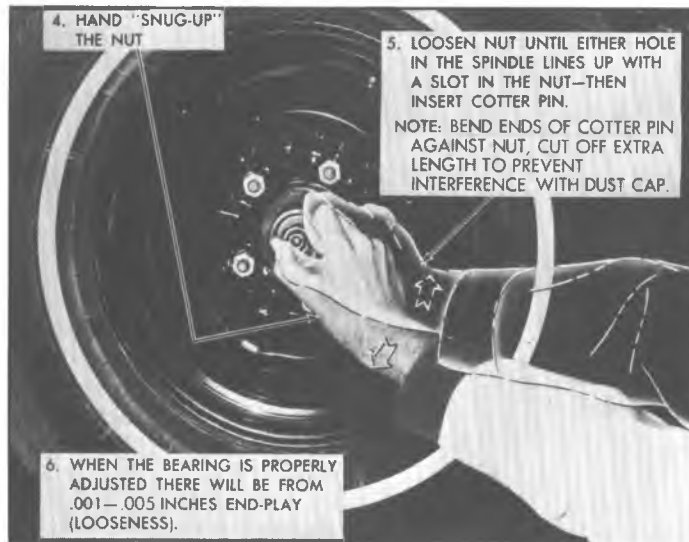

Fig. 17—Wheel Bearing Adjustment
### ADJUSTMENT (FIG. 17)
4. Tighten the spindle nut to 12 ft. lbs. while turning the wheel assembly forward by hand to fully seat the bearings. This will remove any grease or burrs which could cause excessive wheel bearing play later. (See Fig. 17).